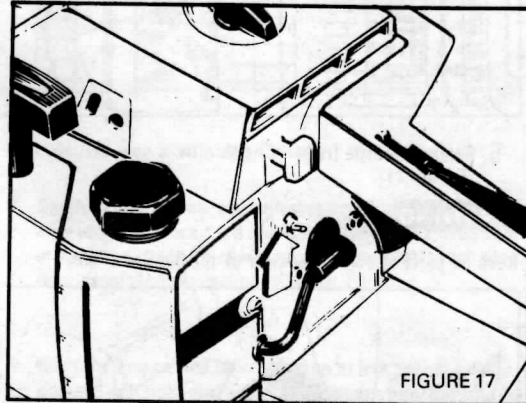

FIGURE 17
2. Move ignition/stop switch upwards to the "on" position. (Figure 17).